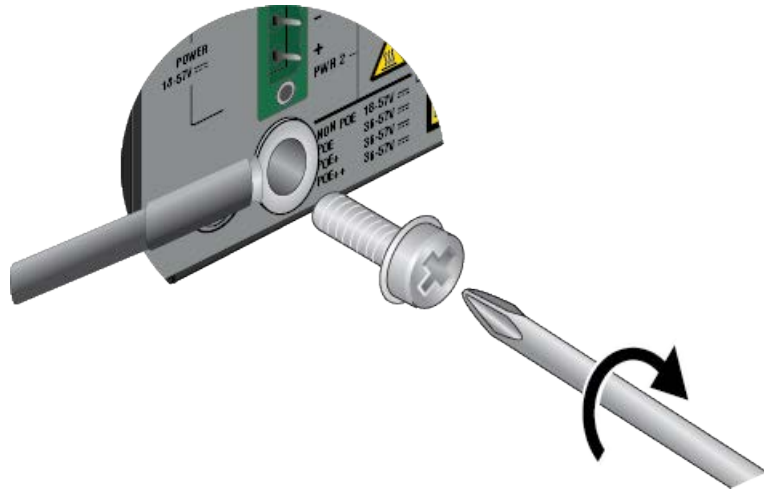

Figure 43. Attaching the Grounding Wire to the Switch
8. Secure the grounding screw to the IE360 Switch with the grounding screw. Tighten screw to 6 in-lbs. Refer to Figure 43 on page 99.